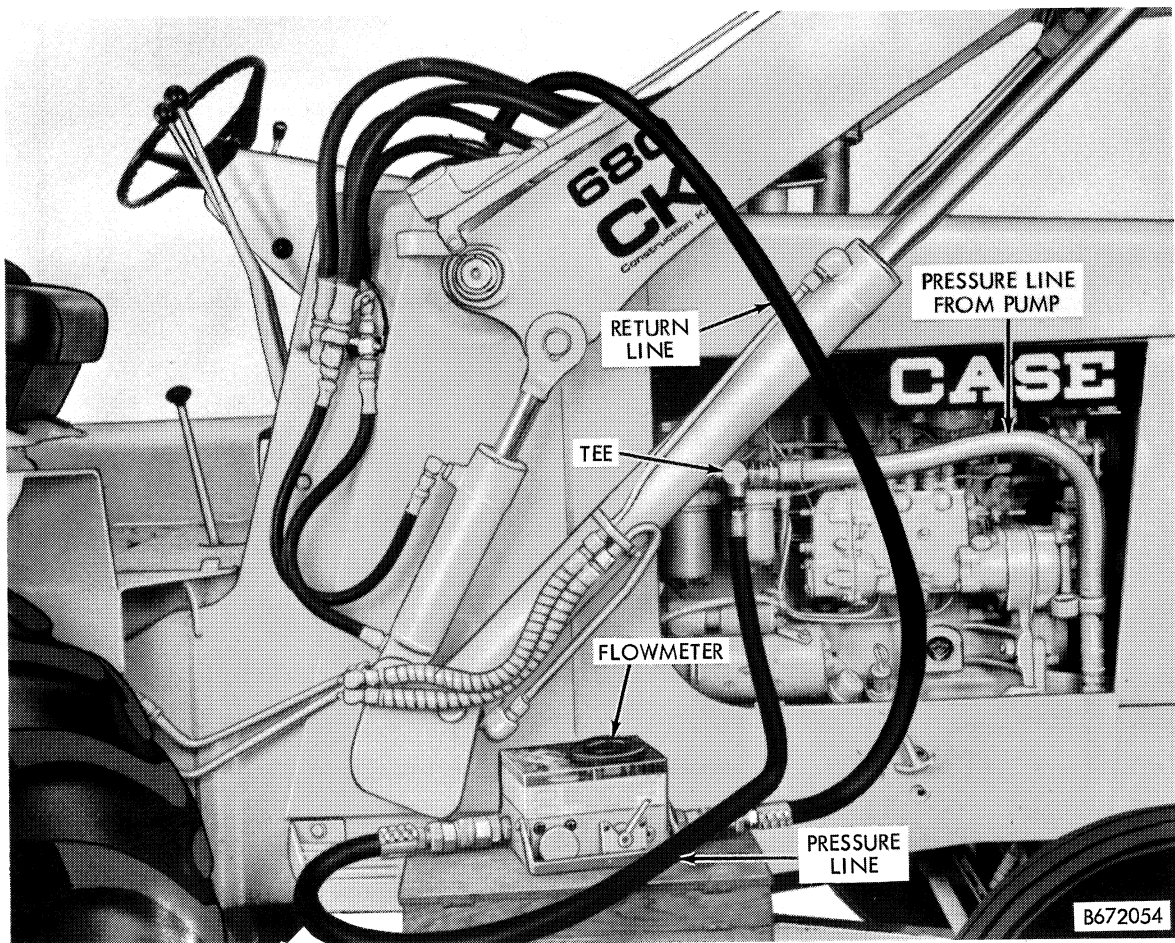

Figure 4 - Hookup for "Tee Test"
1. Disconnect the hose at the point shown in Figure 4. Install a "tee" at this point.